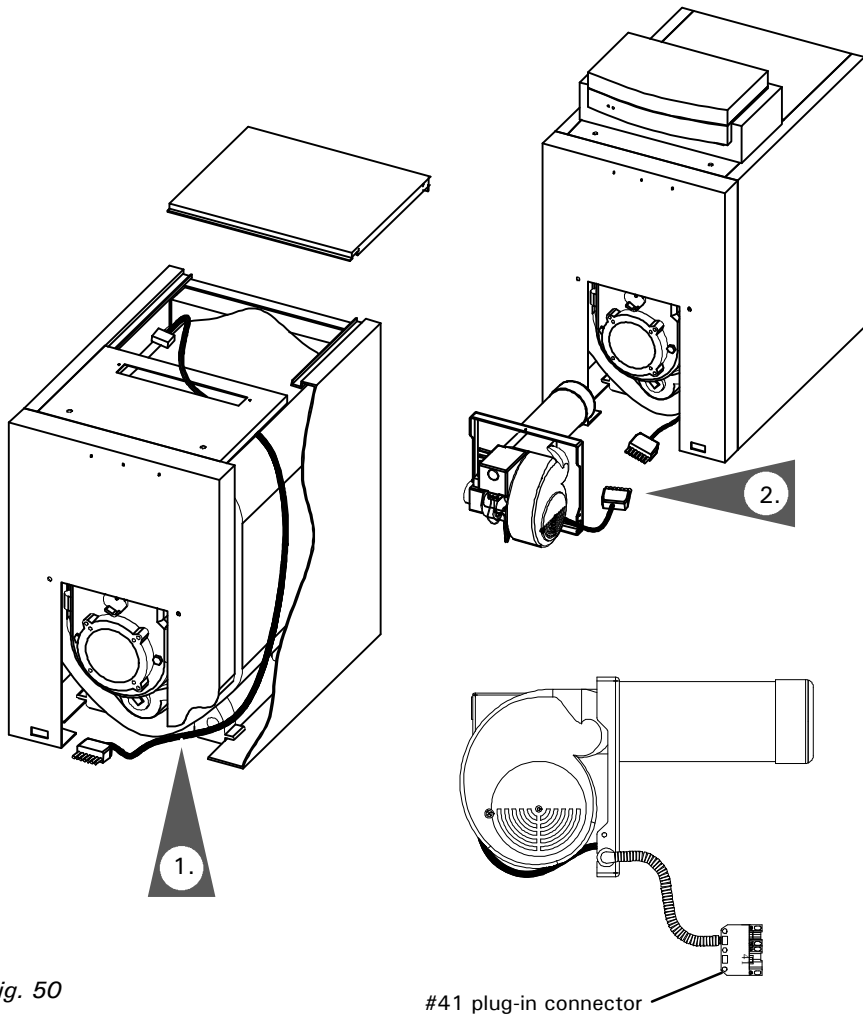

Fig. 50
1. Pump junction box must be placed underneath top panel near the back of the boiler, as shown in Fig. 50.